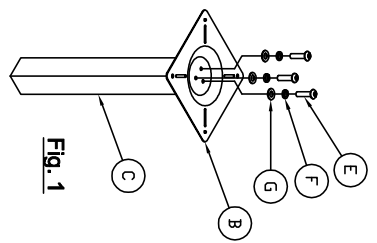

Fig. 1
1. Assemble Mounting Plate (B) to Column (C) using Washer (G) Lockwasher (F) & Screw (E) 3 places as shown in Fig. 1.